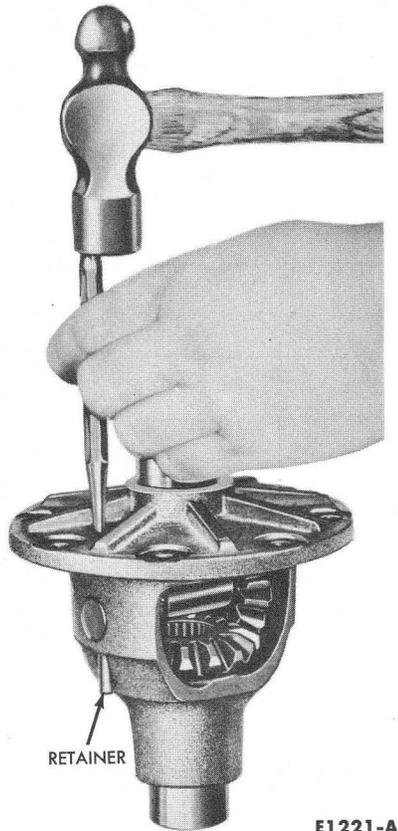

FIG. 14—Differential Pinion Shaft Retainer Removal
3. With a drift, drive out the differential pinion shaft retainer (Fig. 14).
5. Start the pinion shaft into the differential case. Carefully align the shaft retaining pin hole with the pin hole in the case. Drive the shaft into place and install the retaining pin (Fig. 14).